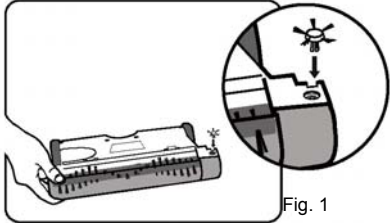

Fig. 1
- In the event that the edging tool is not attached to the sweeper, insert the edging tool into the "square" hole under the bottom of the sweeper power head. Gently but firmly push until the edging tool locks into place. (Fig. 1)